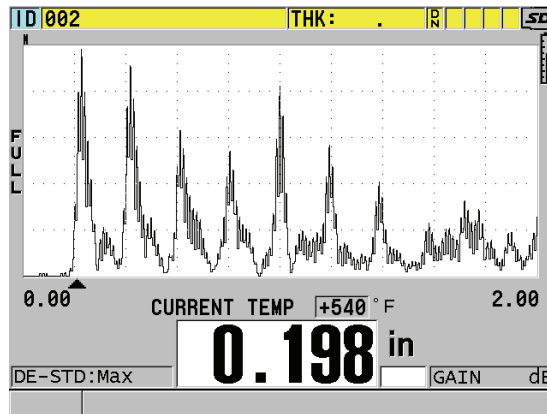

Figure 10-19 Displaying temperature compensation data
4. Press [**MEAS**] to return to the measurement screen with the activated temperature compensation (see Figure 10-19 on page 150).